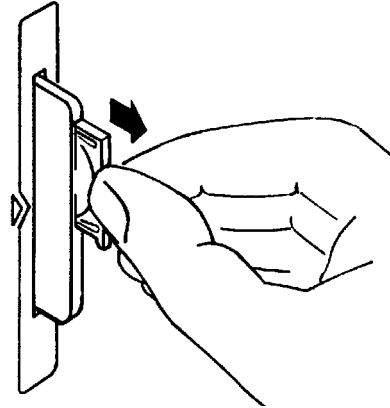

Figure 11 **Replacing the Memory Card's Battery**
2. Hold the memory card in the slot with one hand and pull the battery holder out with your other hand. (See Figure 11 on page 78.)